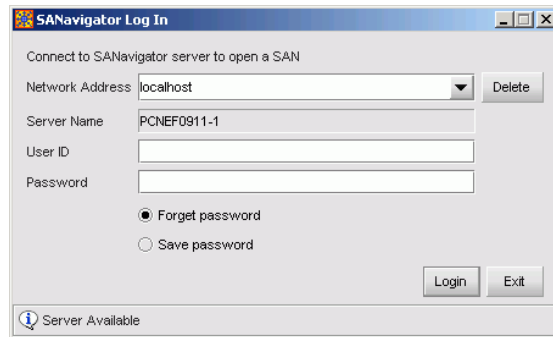

Figure 3-48 SANavigator Login or EFCM Login Dialog Box
After rebooting the server at the LCD panel, log on to the management server's Windows 2000 desktop through a LAN connection to a browser-capable PC. Refer to Access the Management Server Desktop on page 2-55 for instructions. The SAN management application starts and the *SANavigator Log In* or *EFCM Log In* dialog box displays (Figure 3-48 on page 3-115).
- e. After rebooting the server at the LCD panel, log on to the management server's Windows 2000 desktop through a LAN connection to a browser-capable PC. Refer to Access the Management Server Desktop on page 2-55 for instructions. The SAN management application starts and the *SANavigator Log In* or *EFCM Log In* dialog box displays (Figure 3-48 on page 3-115).